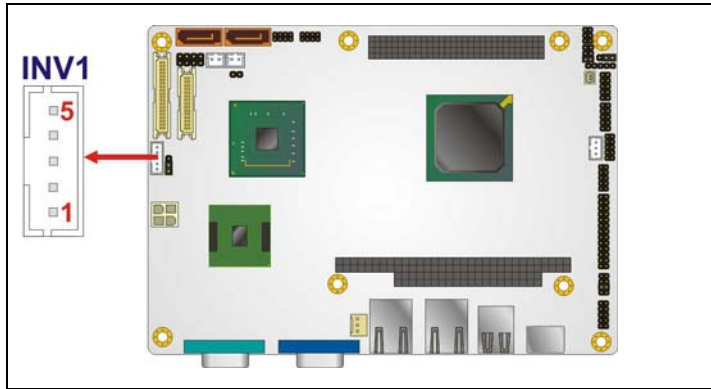

Figure 3-6: Panel Backlight Connector Pinout Locations
- CN Location:** See **Figure 3-6**